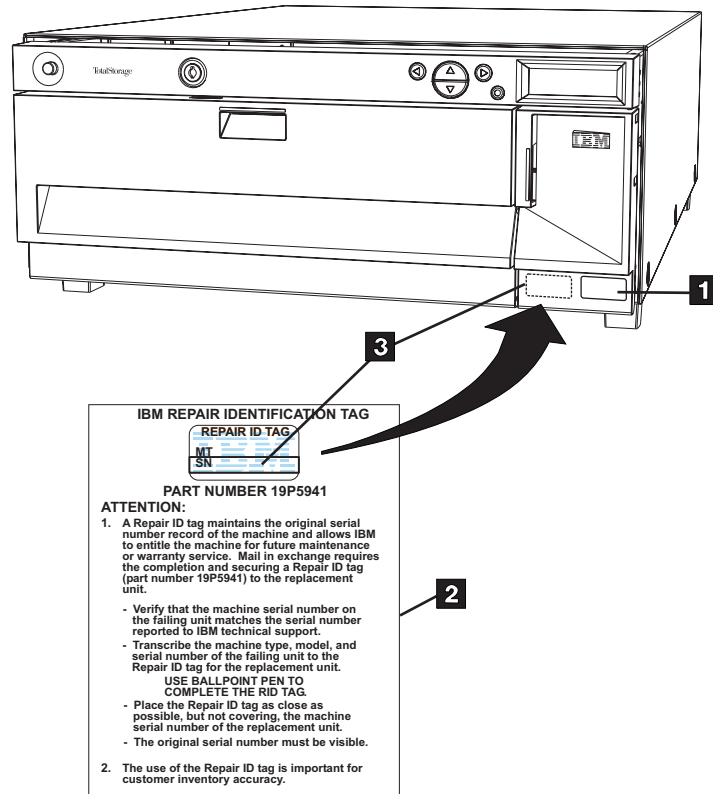

Figure 109. Repair Identification Tag
See **3** in Figure 109.
- 2. Read the instructions (**2** in Figure 109) for the RID Tag.
- 3. Copy the serial number (**1** in Figure 109) from the original I/O Door removed from your library onto the RID Tag.
- 4. Affix the RID Tag to the replacement I/O Door (**3** in Figure 109) installed on your library.